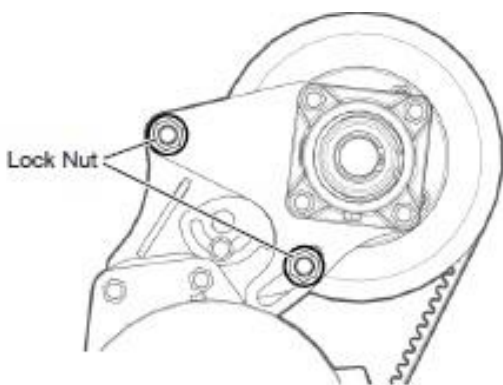

Figure 63
8. Tighten the lock nuts on the knife drive. Figure 63